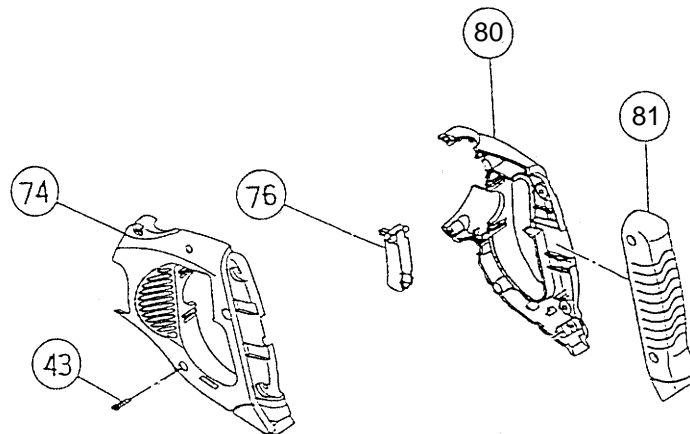

Fig. 10
(8) Disassembly of Handles (A) [74] and (B) [80] section (Fig. 10)